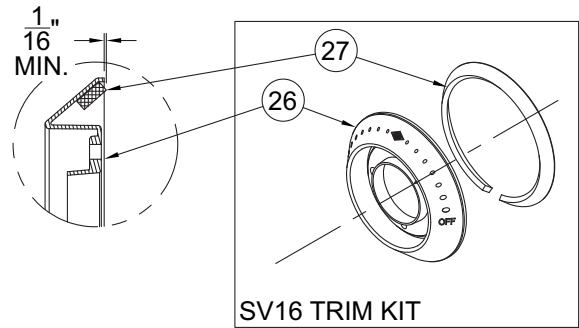

FIGURE 11
- Attach **escutcheon gasket 27** to the back of **Tri-Lever handle escutcheon 26** by removing adhesive protection film and attaching as shown **Figure 11**.